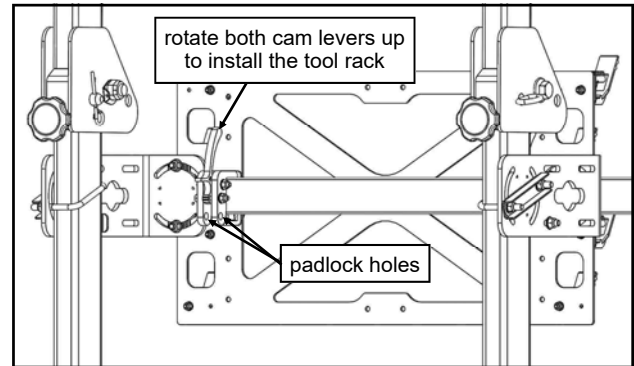

Fig. 1 (attaching the tool rack)
1. To install the tool rack, rotate both cam levers UP, then place onto the Toolbar. See figure 1.
*NOTE: For additional security, the tool rack can be locked to the Toolbar by inserting a padlock through the holes in the mounting bracket where shown. See figure 1.*